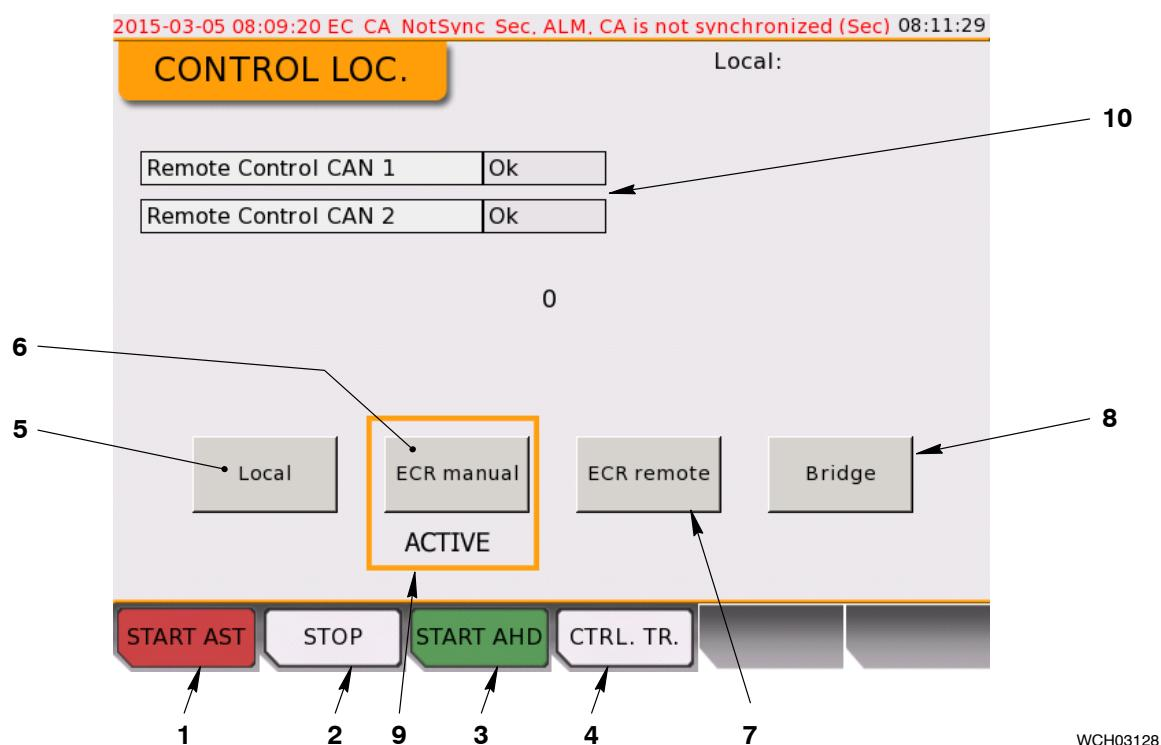

Fig. 6: Control Locations Page
- 1) Push the CTRL. TR. button (4, Fig. 6) to accept control to the LDU at your location.